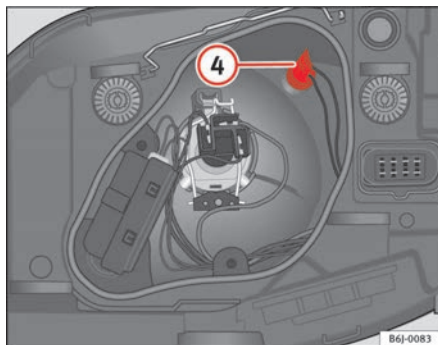

Fig. 154 Side lights
- Extract the lamp holder ④ ⇒ fig. 154 outwards.